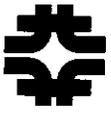

**Figure 1.25a** An installed Belleville Washer Assembly.
- 1.25** Install Belleville Washer Assemblies on each tensioning stud per Figures 1.25a and 1.25b. In the figures: Items 11 (10 each) are Belleville Washers, arranged as shown; Items 6 (2 each) are flat washers; Items 4 and 5 are the Belleville Washer Holder; Item 10 are Spherical Washers for above and below the washer holder; Item 9 is a loading nut; and Item 8 is a jam nut.
- 1.27.1.3 Tighten the 6 loading nuts finger-tight. Measure and record the gap "y" indicated in Figure 1.25a between Item 5 and the current lead top flange at the 6 locations specified in Figure 1.27.1.4.
**1.27.2.3** Tighten the 6 loading nuts finger-tight. Measure and record the gap "y" indicated in Figure 1.25a between Item 5 and the current lead top flange at the 6 locations specified in Figure 1.27.1.4.